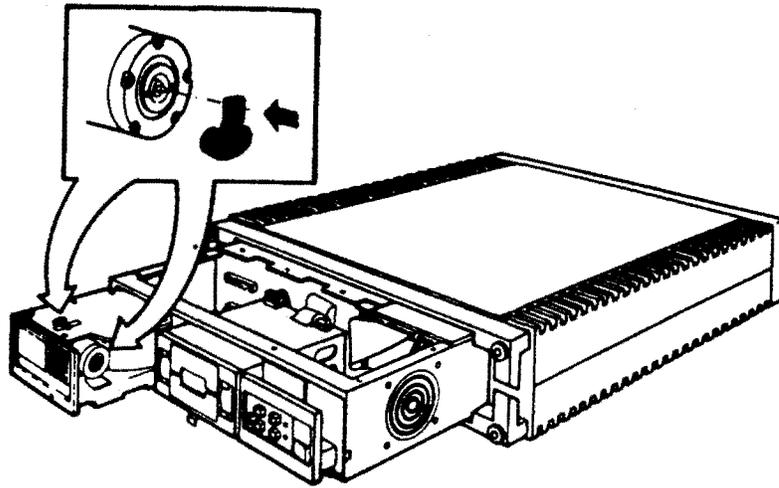

Figure 6-13: RD52 Head Positioning Arm Cover Replacement
4. Replace the red plastic cover on the head positioning arm (Figure 6-13). (This cover should have been removed and taped to the top of the drive during installation.)